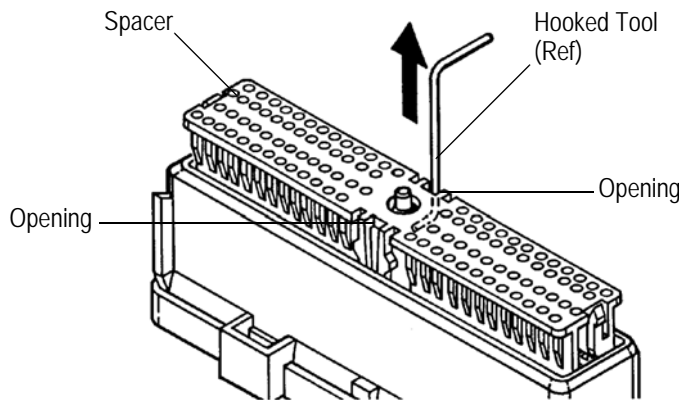

Figure 7
2. A hooked tool or modified 3.18-mm flat blade screwdriver must be inserted into the opening on either side of the jackscrew. Refer to Section 5 for screwdriver and hooked tool dimensions. The tool must be rotated 90 degrees, and the spacer must be pulled straight out from the plug connector. See Figure 7.